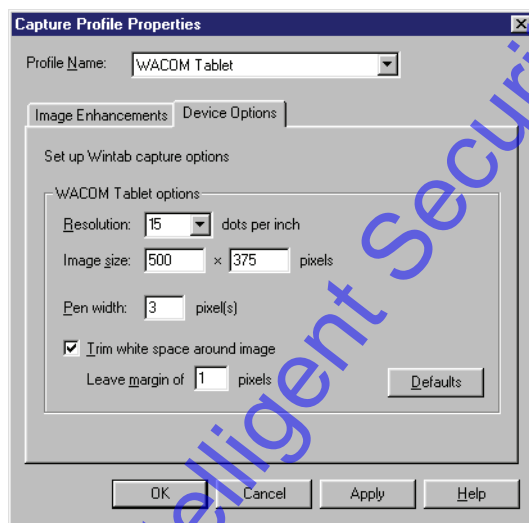

Figure 9-29: Device Options Tab
4. The Perform Automatic Enhancements check box should be blank, allowing you the flexibility to edit a signature image if necessary. Click on the Device Options tab. The Device Options tab appears (see Figure 9-29).
5. To ensure the proper aspect ratio for digital signatures, the tablet options must be set as displayed in Figure 9-29.